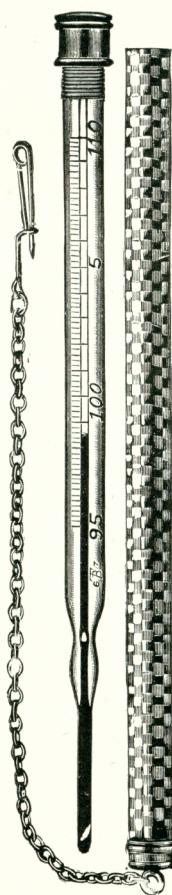

FIG. 67.
- No. 3076. Fig. 67—5 inch pocket testing Thermometers, scale etched on stem, in gilt case, with chain and pin 2 25